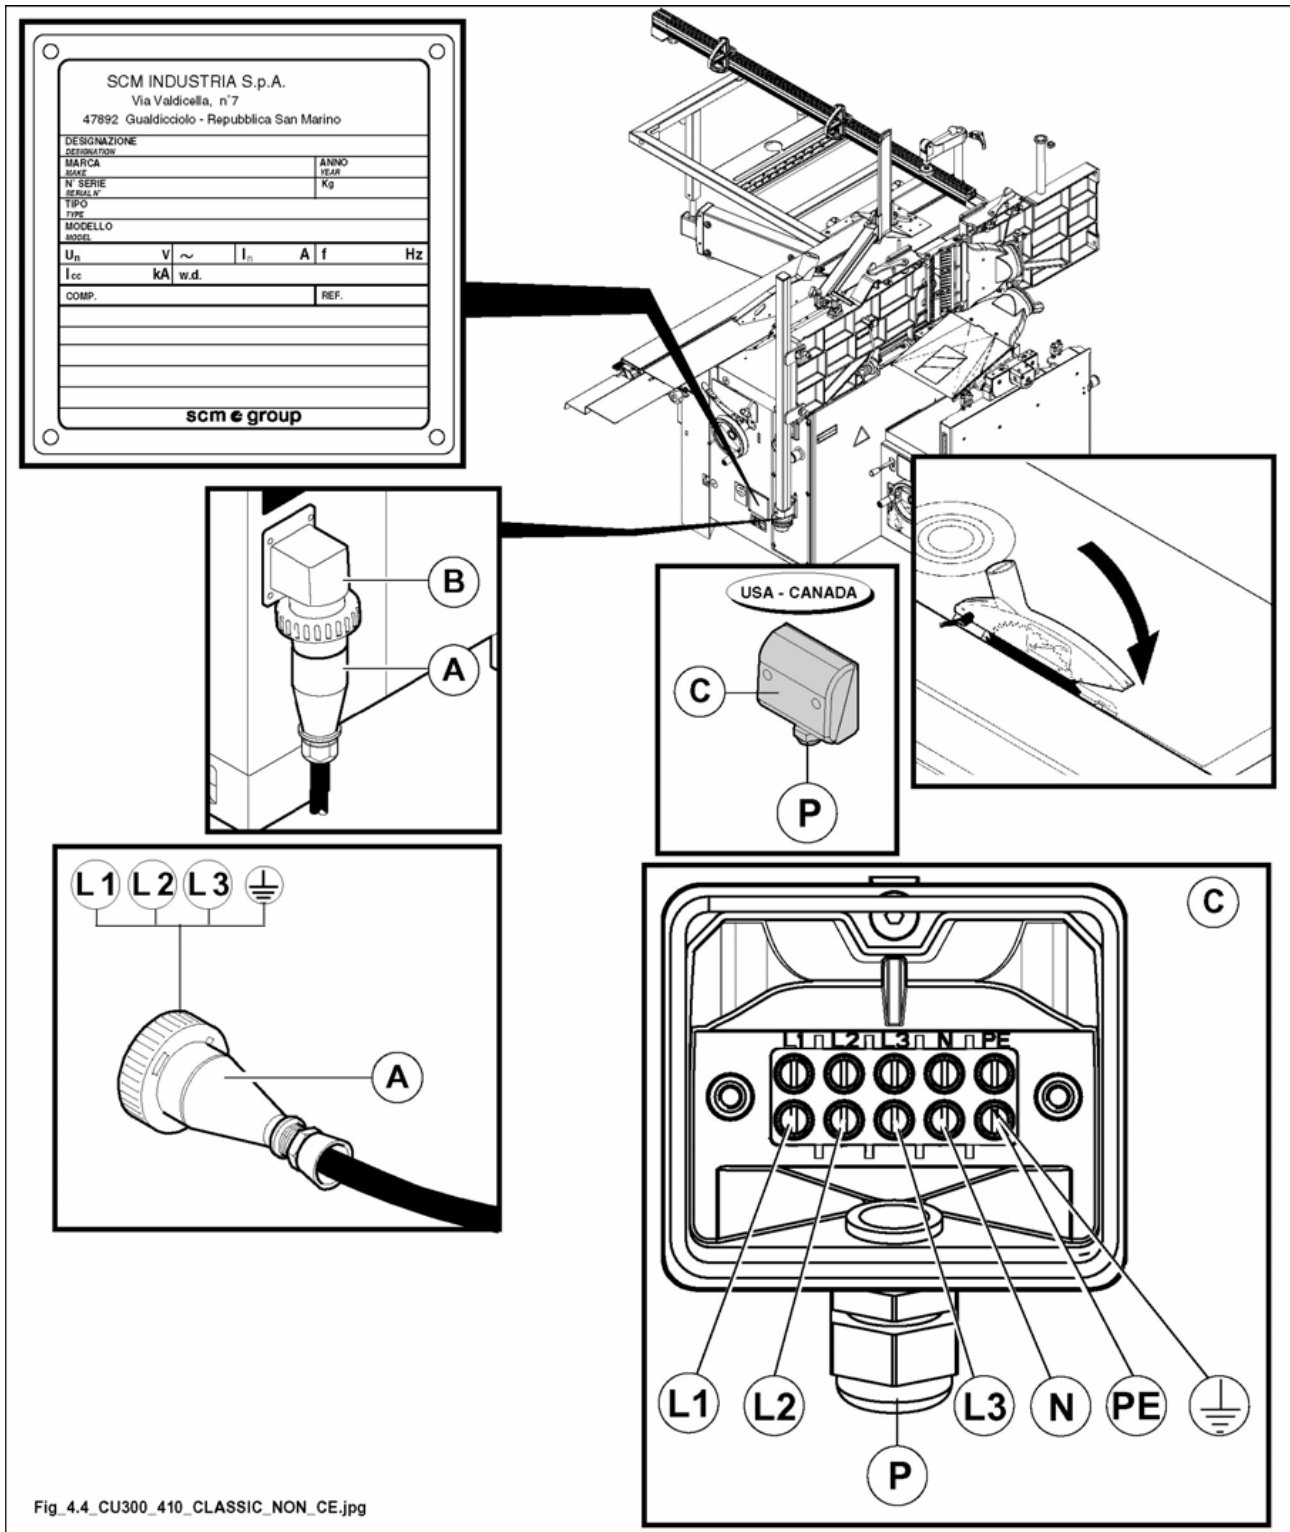

Fig. 4.4
the right working voltage is indicated on the plate fig.4.4; tolerance range: +/- 5%.
- prearrange the feeding cable near the terminal board (A fig. 4.4);
- connect socket (A fig. 4.4) to plug (B fig. 4.4).
- take off the cover of the terminal board (C fig. 4.4);
- insert the supply cable into proper terminal screw (P fig. 4.4);
- connect the 3 phases to terminals L1-L2-L3 (fig. 4.4);
- if necessary connect neutral cable to terminal (N fig. 4.4);
- clamp terminal screw (P fig. 4.4).